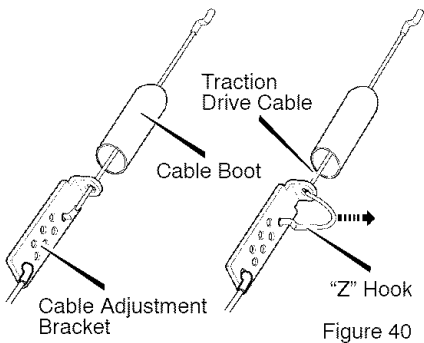

Figure 40
5. Slide the **cable boot** off the **cable adjustment bracket** (see Figure 40).